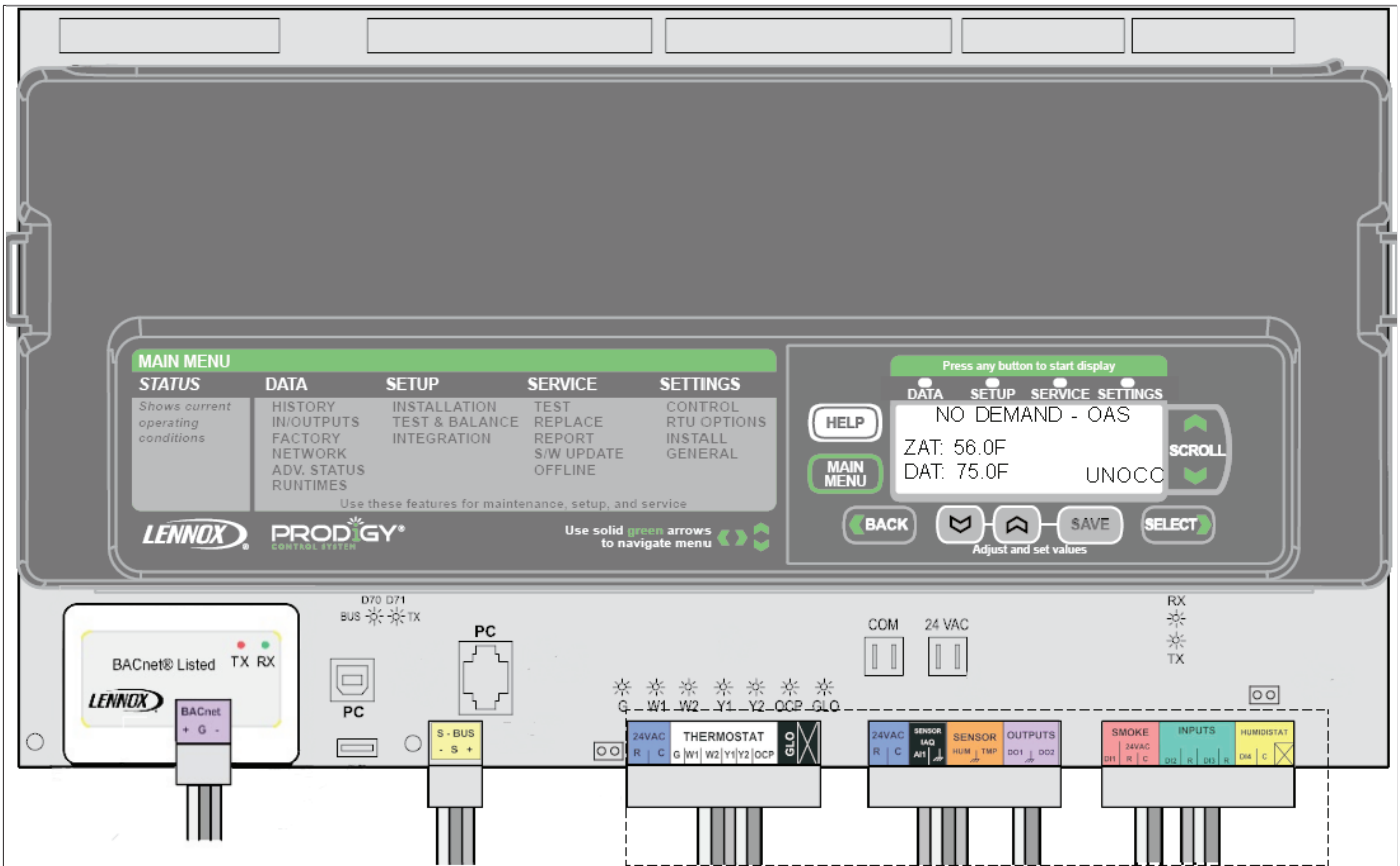

Figure 1. M3 BACnet® Module (BP1)
1. Connect the BACnet SmartWire connector as shown in "Figure 1. M3 BACnet® Module (BP1)" on page 3.
Room Sensor must be installed and wired to the M3 SENSOR inputs (see "Figure 1. M3 BACnet® Module (BP1)" on page 3). M3 may be controlled using BACnet commands AO109 or AV130-133.